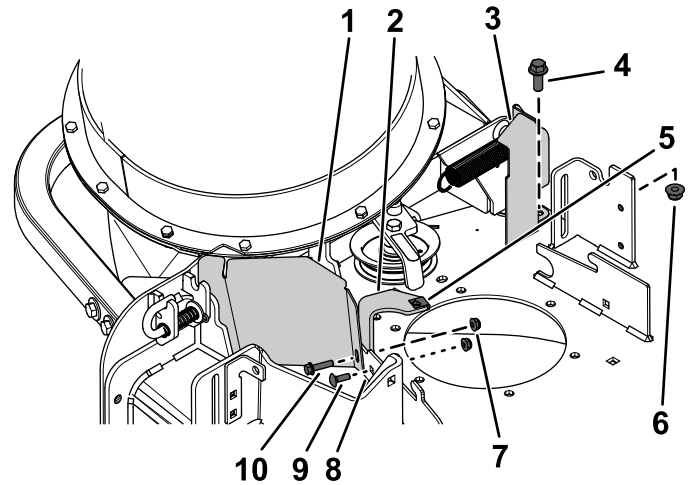

Figure 6
- Align the holes of the CE pulley guard to the hole in the forward deflector bracket and the outboard hole in the forward deck flange (Figure 6).
- Align the CE belt-cover bracket (if not previously installed) to the holes at the rear side of the forward deck flange (Figure 6).
- Secure the CE pulley guard and the belt cover bracket to the forward deck flange at the outboard hole using 1 hex-head bolt (1/4 x 1 inch) and 1 locknut (1/4 inch) as shown in Figure 6.
- Secure the belt-cover bracket to the forward deck flange at the inboard hole using 1 carriage bolt (1/4 x 3/4 inch) and 1 locknut (1/4 inch) as shown in Figure 6.
- Align the hole in the rear flange of the CE belt-cover bracket with the hole in the deck where you removed the OEM belt cover bracket in step 1 of Removing the Cover Mounting Bracket \(page 4\); refer to Figure 6.
- Align the clip nut with the hole in the top of the CE belt-cover bracket, and push the clip nut onto the bracket (Figure 6).
- Loosely install the rear guard to the mower deck using 1 hex-head bolt (3/8 x 1 inch) and 1 flange nut (3/8 inch) as shown in Figure 6.